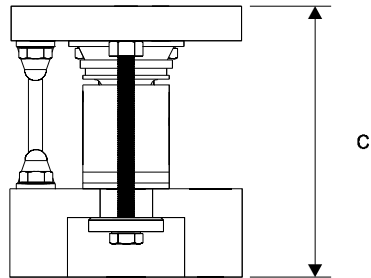

FIG. 20: HEIGHT DIMENSION C
- Step 3. With the top plates installed, put the vessel support bracket with the top plate onto the pins of the load cells. Make sure that the sliding load cell pins are riding on the stainless plate. Make sure that the fixed pin is centered in the top plate housing. The horizontal position is not critical but the vertical position is. Use the C dimensions to determine the proper height between the support surface and the top of the top plate. (See Fig. 20)